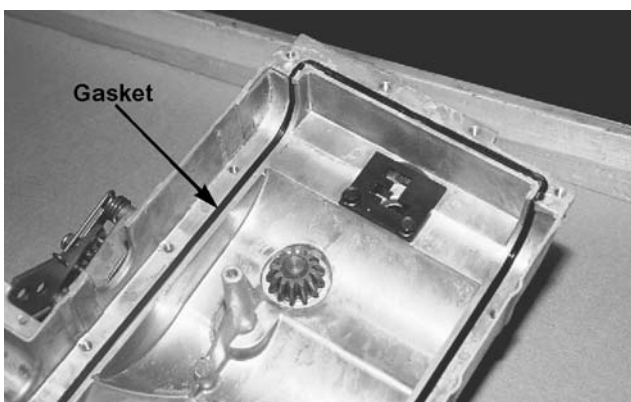

Figure 5-70.
9. Inspect the gaskets on the upper housing half for damage. See Figure 5-70.